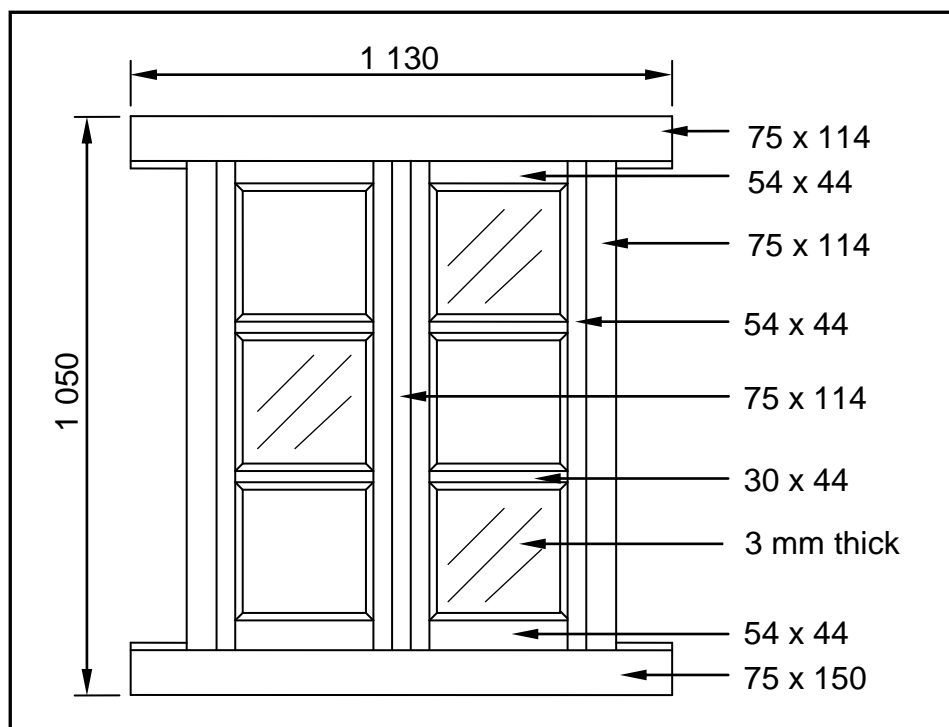

FIGURE 4.1
- 4.1 FIGURE 4.1 below shows the front view of a double casement window. Study the drawing and complete the incomplete cutting list. Write only the answer next to the question number (4.1.1–4.1.7) in the ANSWER BOOK.